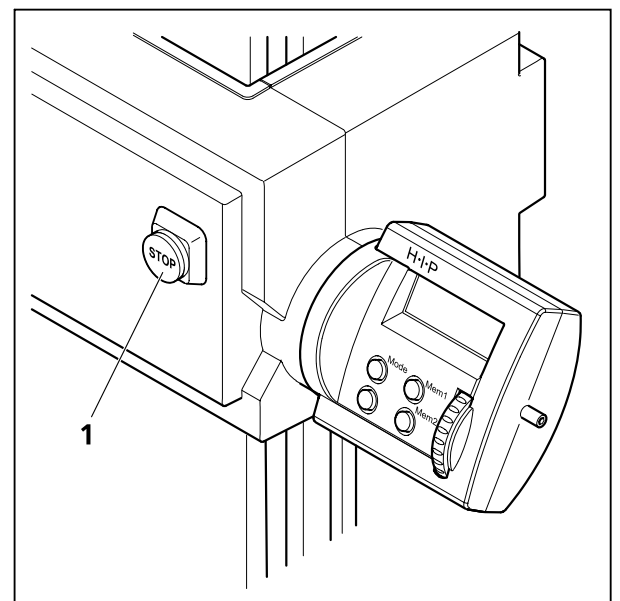

Fig. 53 STOP button
- Push in the STOP button (Fig. 53/1) to switch off the focusing drive.